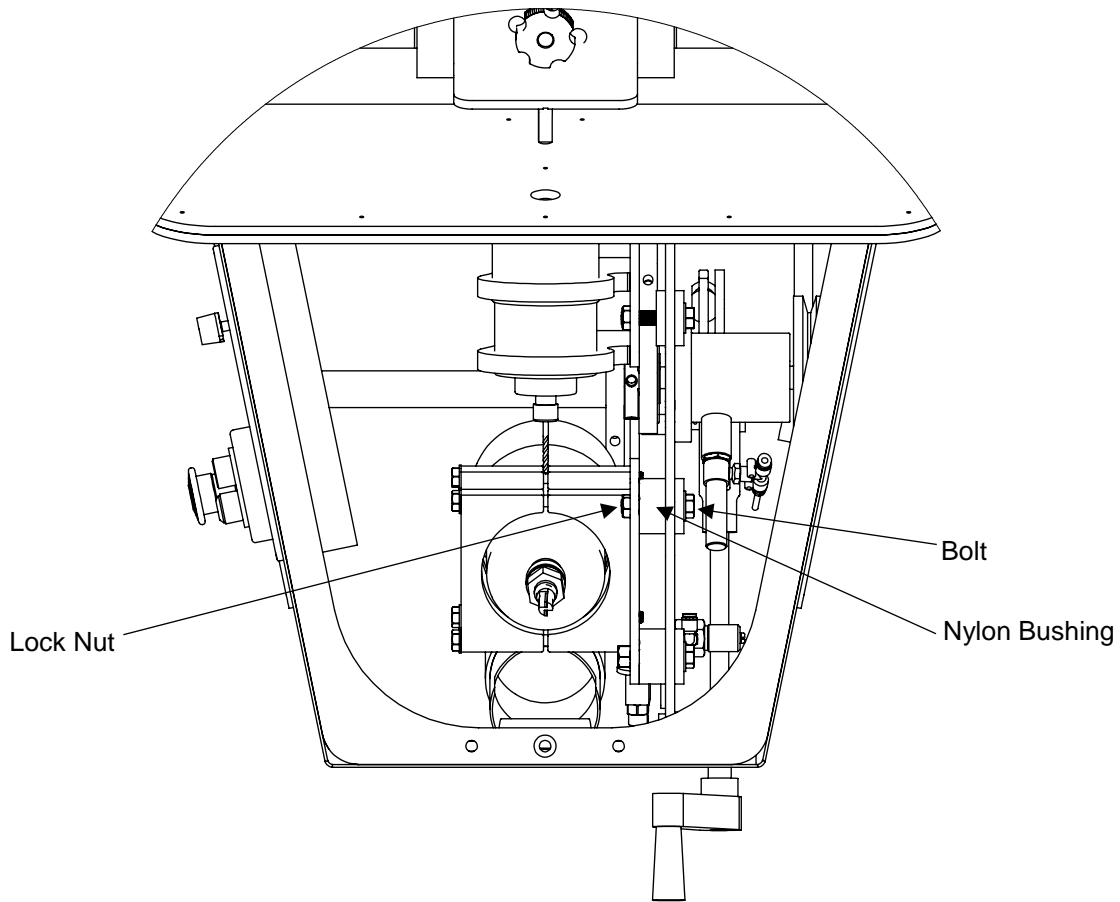

Figure 23: Guide Arm Adjustment (Top view with cover open)
1. Loosen the lock nut (Fig. 23).
2. Tighten bolt (Fig. 23) until slight resistance can be felt when rotating the nylon bushing (Fig. 23) by hand.